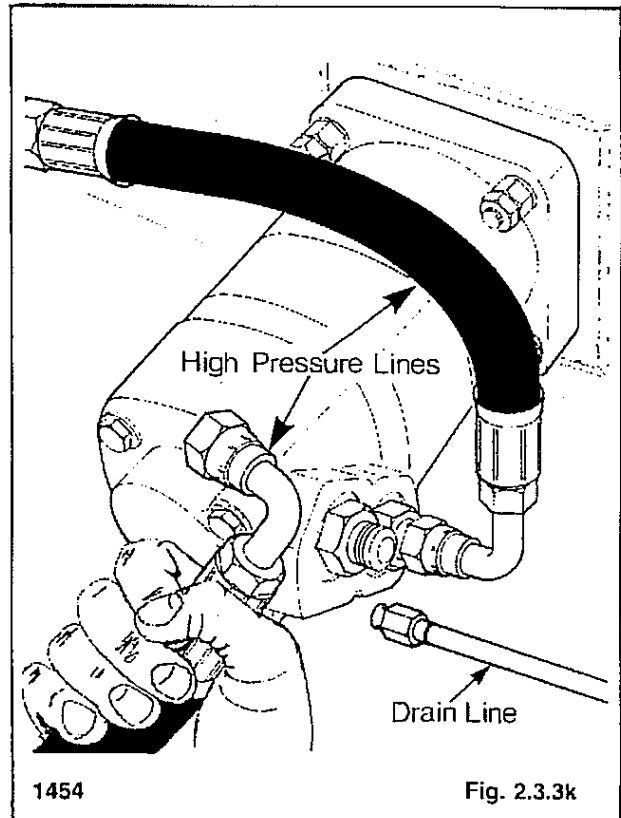

Fig. 2.3.3k
14. Disconnect and remove the two high pressure pipes between the pump and motor (fig. 2.3.3k).
15. Disconnect and remove the drain line from the torque motor (fig. 2.3.3k). Cap the line and plug the motor drain port.